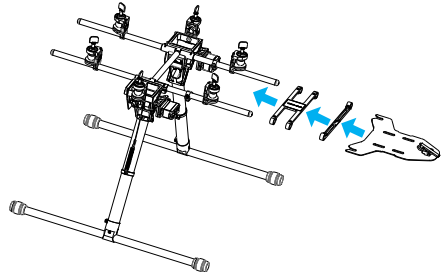

Fig.2
2. (Fig.2) Fix the IMU Mount and remount the Battery Bracket.